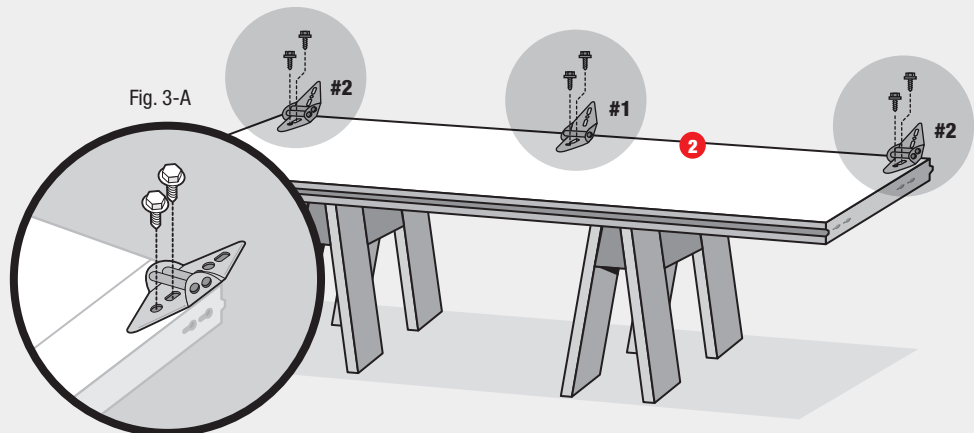

Fig. 3-A
- Attach a #2 hinge to left and right outer top edges using (2) #14 × 5/8" sheet metal screws for each hinge. Attach a #1 hinge to pre-punched holes in center of top edge of section using (2) #14 × 5/8" sheet metal screws (Fig. 3-A).